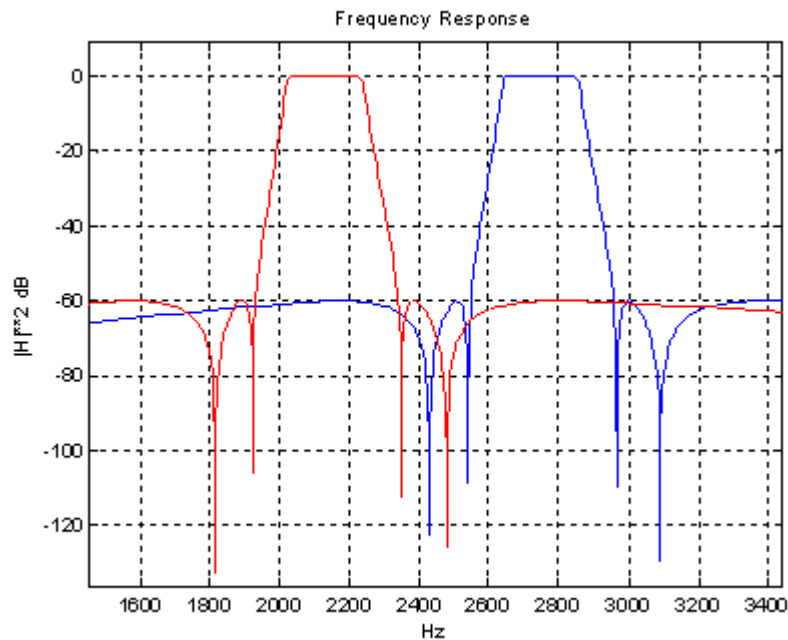

Figure 8-21 CAS Internal IIR Filter Frequency Response Figure
- IIR\_EN            Enable internal IIR filter. IIR\_EN must be cleared before accessing filter coefficients in arbitrary tone detection (ATD) mode. The response of the IIR filter in CAS mode is shown Figure 8-21 CAS Internal IIR Filter Frequency Response Figure . The response of the filter in ATD mode is determined by the user coefficient loaded into RAM. Once filter coefficients are loaded into RAM IIR\_EN must be set active once more.